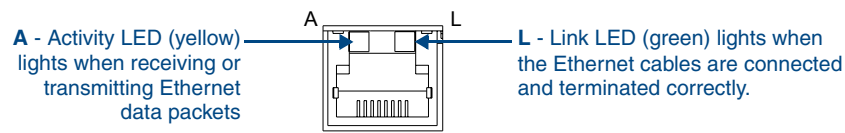

FIG. 14 ETHERNET connector / LEDs
- FIG. 14 describes the blink activity for the ETHERNET 10/100 Base-T RJ-45 connector LEDs.